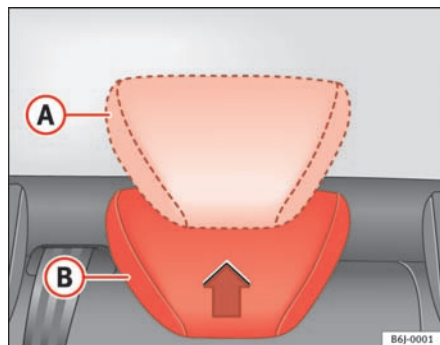

Fig. 5 Adjusting the rear head restraints
- Raised position or position for use **(A)** ⇒ fig. 5. In this position, the head restraint is used normally, protecting the occupant of the rear seats, along with the rear seat belts.
- Rest position **(B)** ⇒ fig. 5. This position improves the driver's rear visibility.